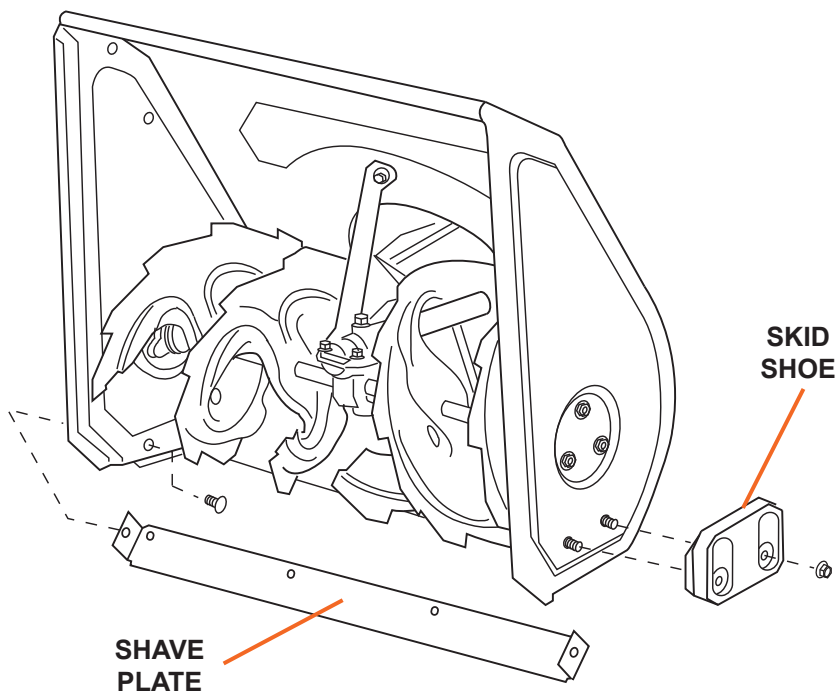

Figure 18
1. Remove the carriage bolts and hex nuts which attach it to the snow thrower housing (see Figure 18).